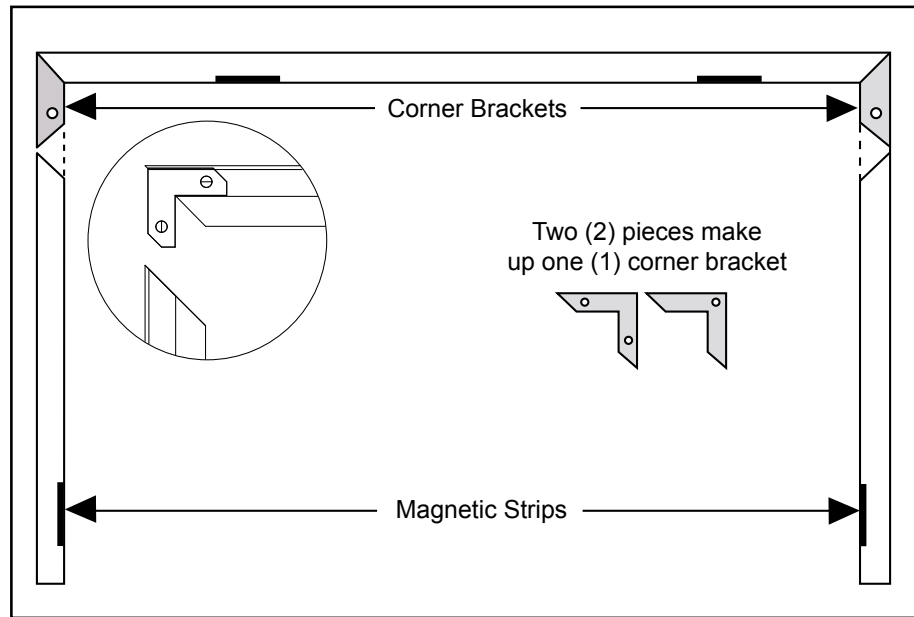

Figure 31: Assembling Trim for Surround Panel.
2. Assemble the trim using the corner hardware and screws supplied in the faceplate packaging. Install corner hardware into the side trim, then push into the top frame (refer to Figure 31).